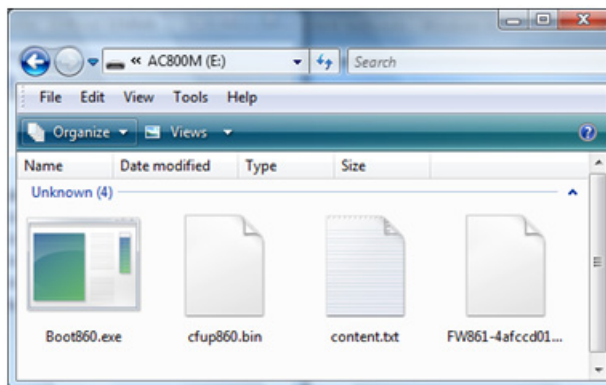
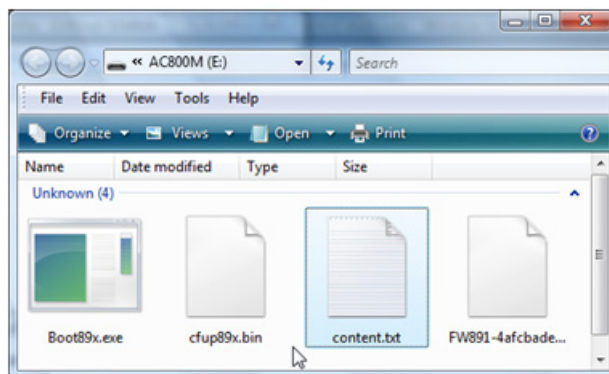

Figure 82. Firmware image files on CF card
Figure 83. Firmware image files on SD card
- There will be four files on the card (see Figure 82 for CF card and Figure 83 for SD card). If the media card is CF, then it has been formatted as FAT.